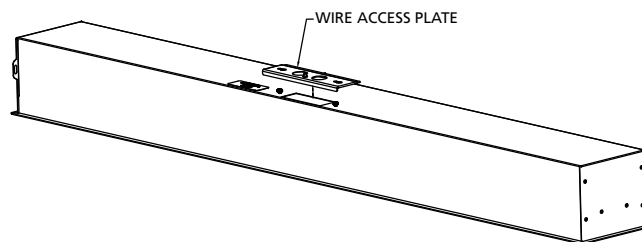

Figure 1
2. Remove wiring access plate from top of fixture using Phillips screwdriver. Secure 1/2" conduit fitting (by others) to access plate. See Figure 1.